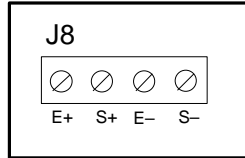

Figure 2-6: Connection assignments for the Load Cell Terminal (J8)
1. Connect your shielded load cell cable (not included) to terminal J8 on the main board. Connection assignments for the Load Cell Terminal (J8) are shown in Figure 2-6.